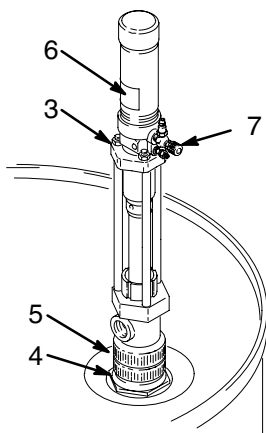

Fig. 2
4. Install the 1:1 ratio feed pumps (3) in 55 gallon drums of ISO and RES. Order Part No. 226946 for the pumps, and Part No. 217381 for the Feed Pump Kit which includes an Air Dryer, two 1:1 Fast-Flo pumps, two feed hoses, three air hoses, and the related fittings. Manual 307552 contains installation and operation information.
- a. Screw the bung adapter (4) and pump tightly into the drum cover. Then tighten the nut (5) firmly to complete the air-tight seal. See Fig. 2.
- b. Separate the ISO/RES identification label (6) along the perforation. Clean the surface of the air motor with solvent and apply the appropriate label (RES or ISO) to identify the chemical being pumped.
- c. We recommend installing an air regulator near the feed pump air inlet to control pump speed. Remove the air valve (7). Install the regulator and pin fitting using suitable adapters and thread sealant on the male threads. Order Part No. 206199 for an air regulator and gauge.